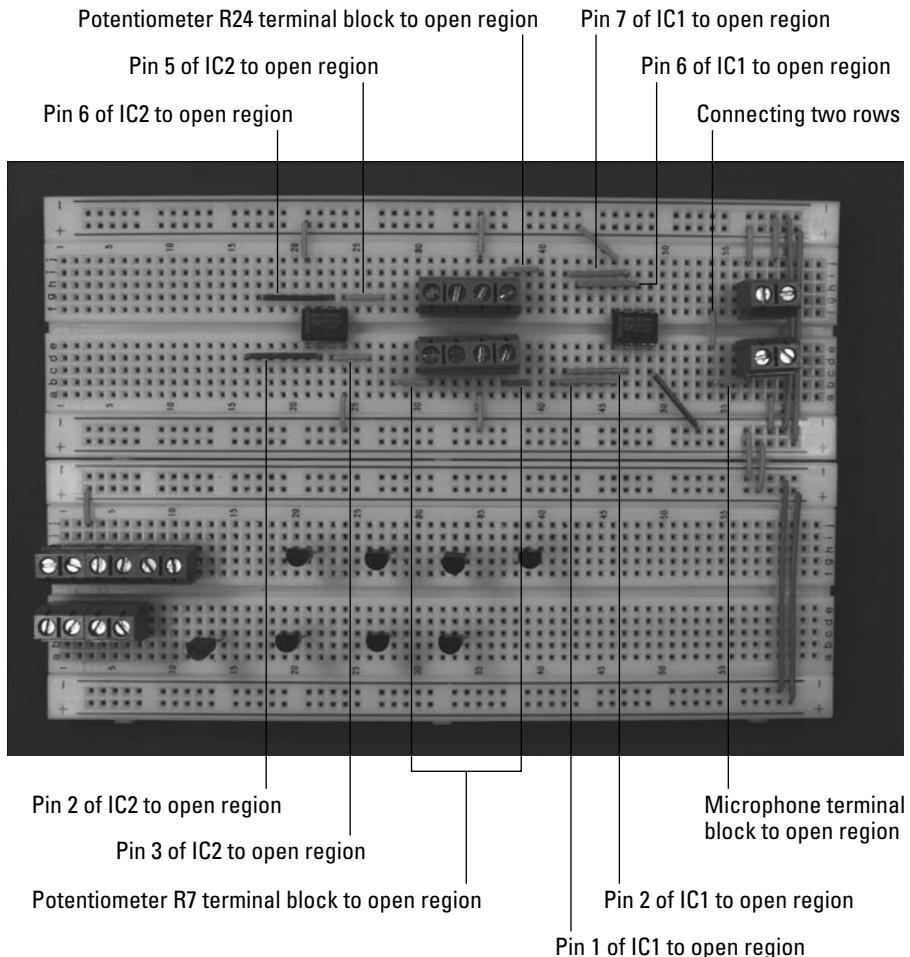

Figure 5-8:
- 5. Insert wires to connect the ICs, terminal blocks, and discrete components, as shown in Figure 5-8.**